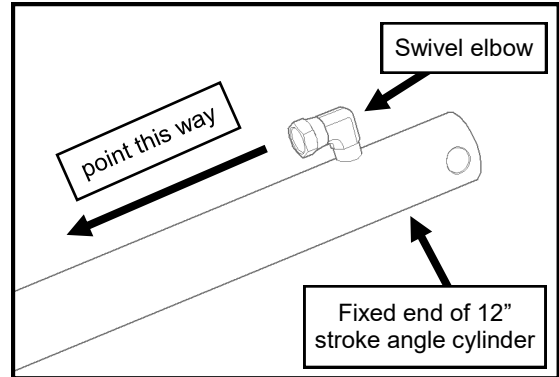

Fig. 5.1—Cylinder Fitting
5.1 Apply thread sealer to the male threaded ends of two NPT 1/4" male x 1/4" female 90° swivel elbows and thread into port on angle cylinder. Make sure the elbows point towards the ram end of both cylinders. See Fig. 5.1.